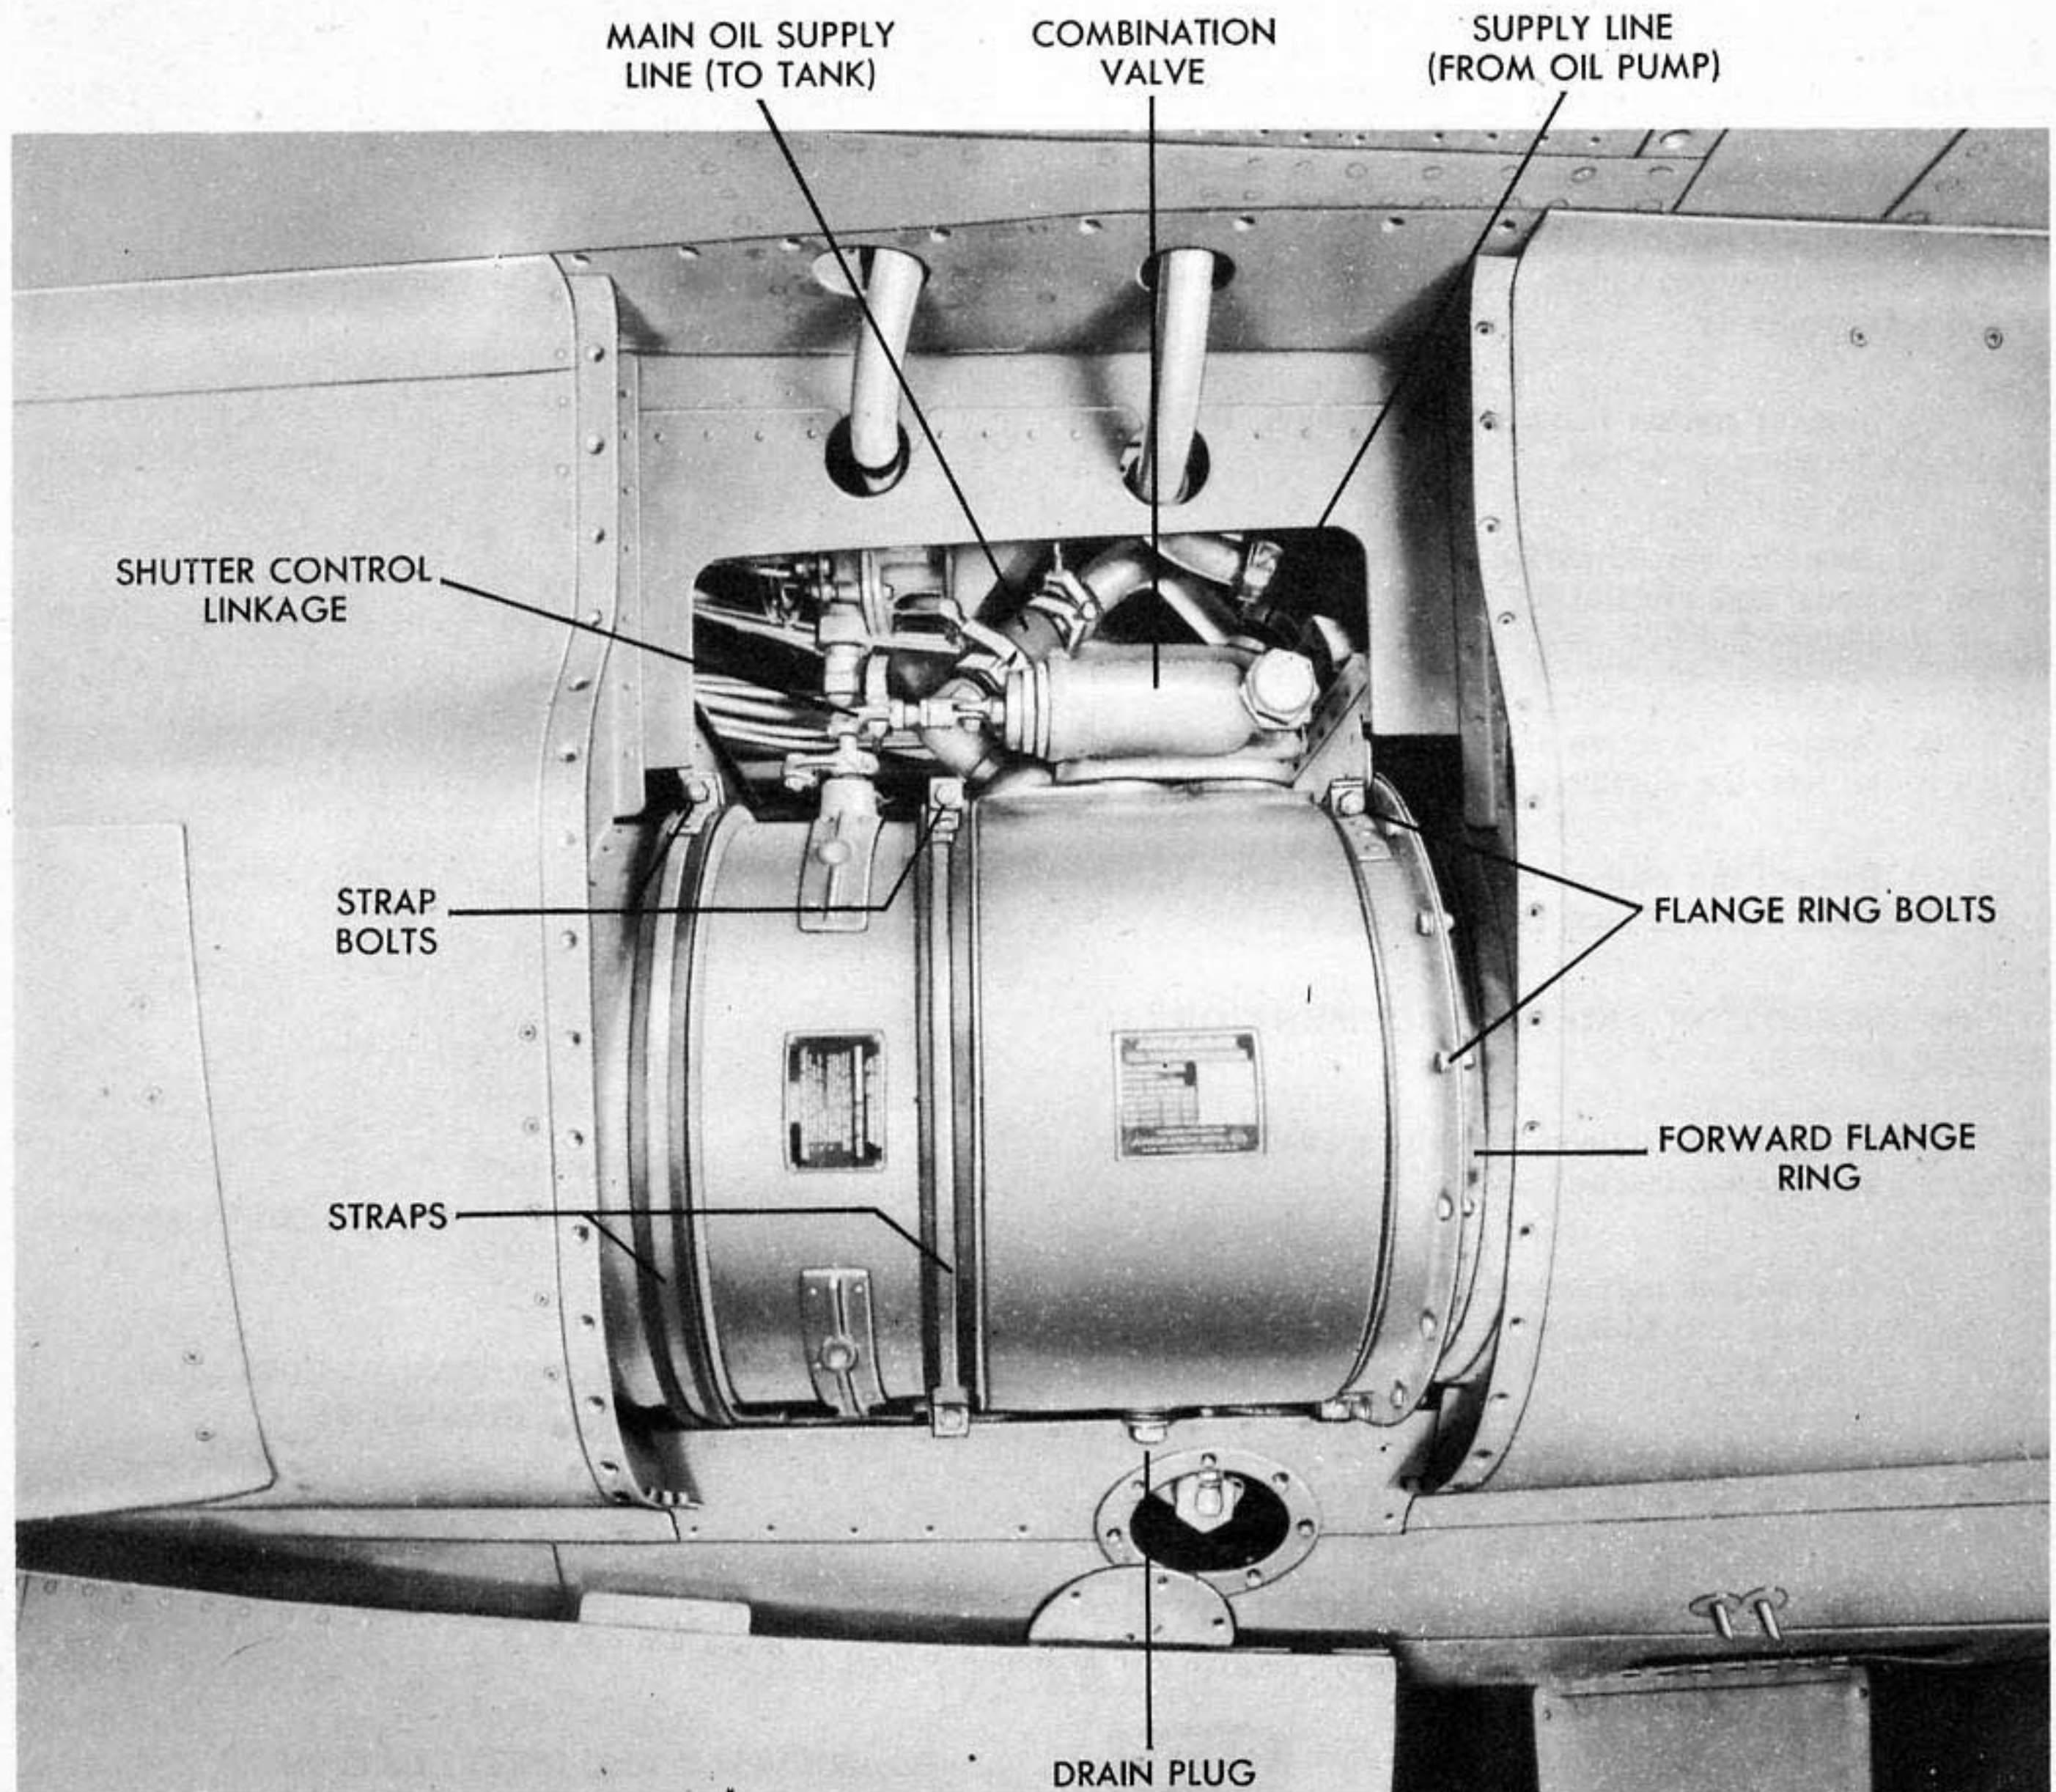

Figure 134 - INSTALLED OIL COOLER
(7) REMOVAL OF OIL COOLER. (See figure 134.)